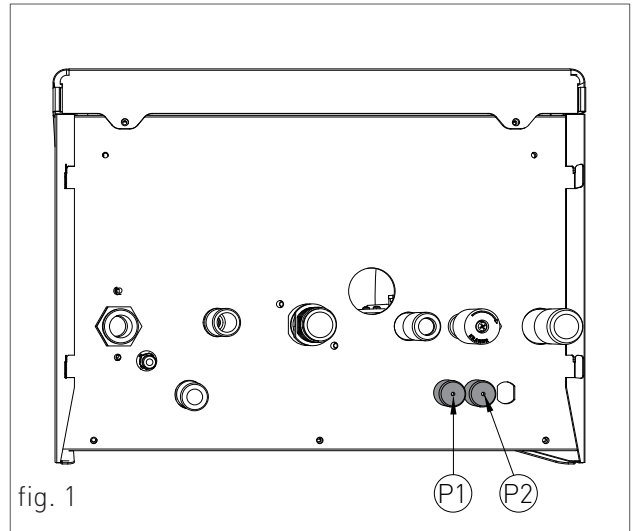

fig. 1
- > loosen the two screws and remove the plate "A" (see fig. 1).
- > after removing the plate, connect the electrical cables to terminal "B" (see fig. 1):
The cables should be inserted inside the water heater using the cable glands 'P1' and 'P2' placed under the board (see fig. 1). Make a hole on the cable gland, smaller than the cable diameter, to make sure that the air cannot pass through.